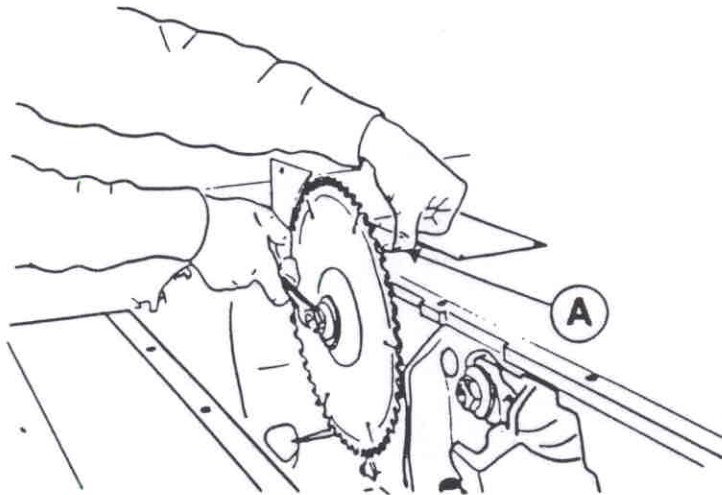

Fig.19
Press button (A) again then tighten screw as shown in fig.19